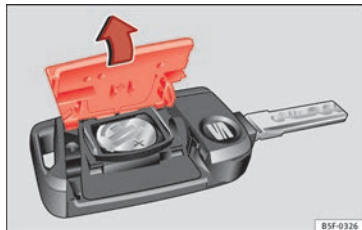

Fig. 133 Vehicle key: opening the battery compartment.
- Remove the cover from the back of the vehicle key » **Fig. 133** in the direction of the arrow » ⚠.
- Fit the cover as shown » **Fig. 133**, pressing it onto the vehicle key casing in the opposite direction to that shown by the arrow until it clicks into place.